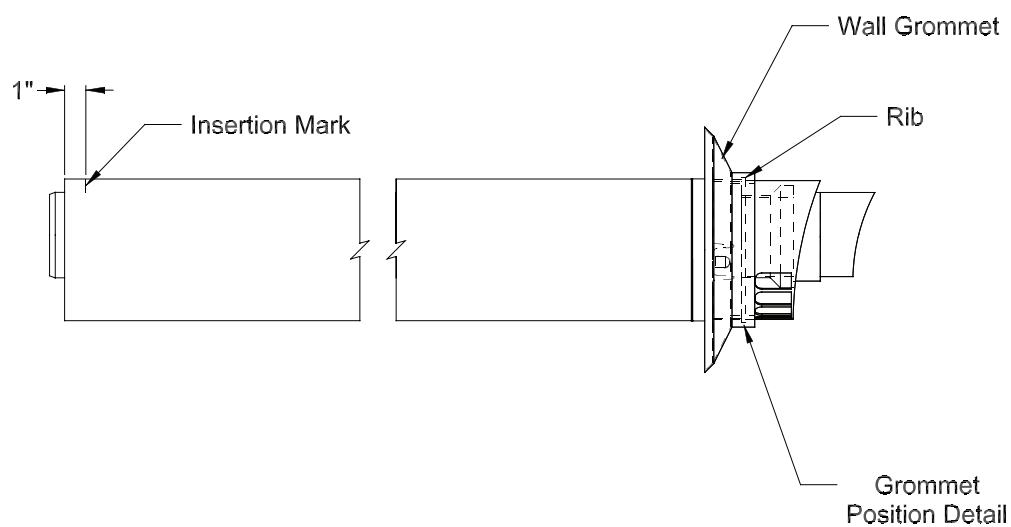

FIGURE 7.24: PREPARING 60/100mm TERMINAL SECTION FOR INSTALLATION IN THE WALL
- f) Reinstall the inner pipe in the terminal section. Slip the outside wall grommet over the terminal section and position so that it covers the joint between the outer pipe and the terminal (Figure 7.24).
- g) Make a mark on the terminal section 1" from the cut end of the outer pipe as shown in Figure 7.24.